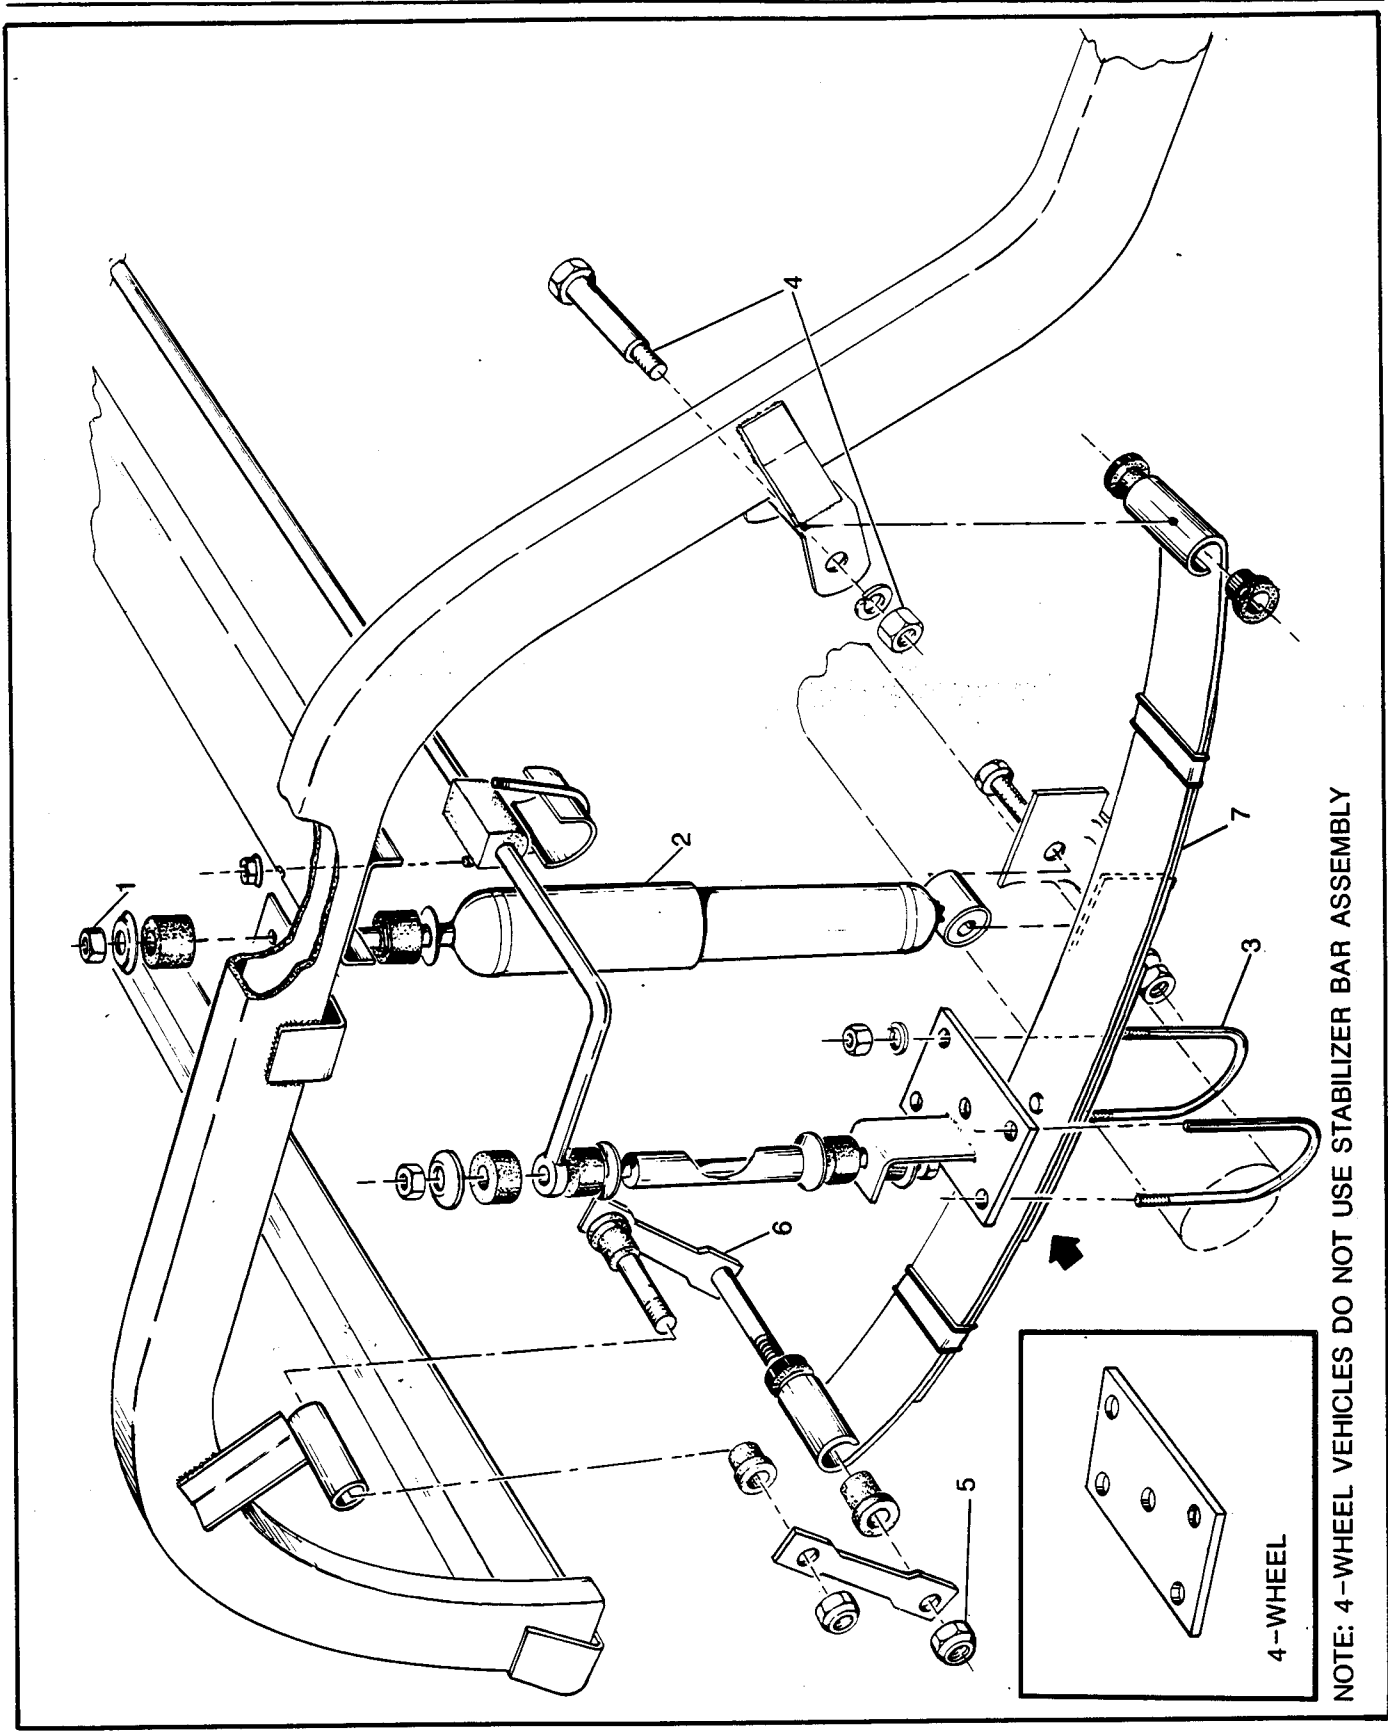

FIG. E-9 REAR SUSPENSION
**REAR SUSPENSION (3 AND 4 WHEEL VEHICLES) (Fig. E-9)**
**REMOVAL OF REAR SHOCK ABSORBERS (Fig. E-9)**
**REMOVAL OF REAR LEAF SPRINGS (Fig. E-9)**
**REMOVAL OF STABILIZER BAR (3 WHEEL VEHICLES ONLY) (Fig. E-9)**